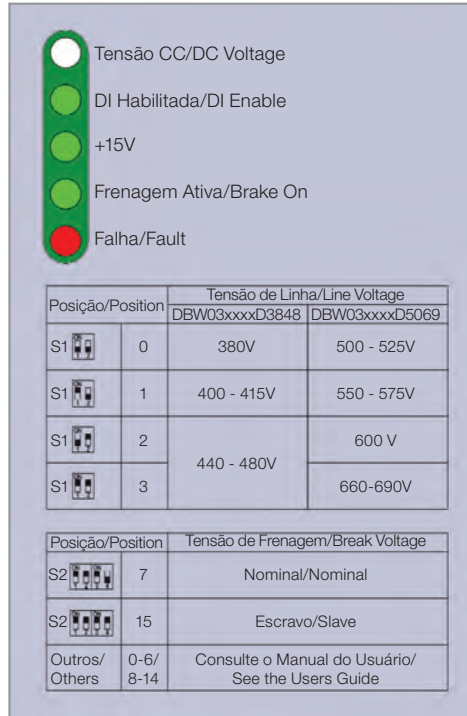

Figure 3.10: Information available in the front part of the braking module DBW03
Function of the indicator LEDs of the DBW03; see figure 3.10.
4. Power up the inverter. The LEDs “DC Voltage”, “+15 V” and “DI enable” (see figure 3.10) must turn ON. The other LEDs must be OFF.